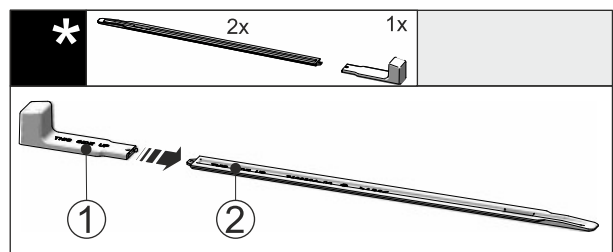

Fig. 44
- ▶ Attach the installation handle Fig. 44 (1) to the levelling rail Fig. 44 (2).